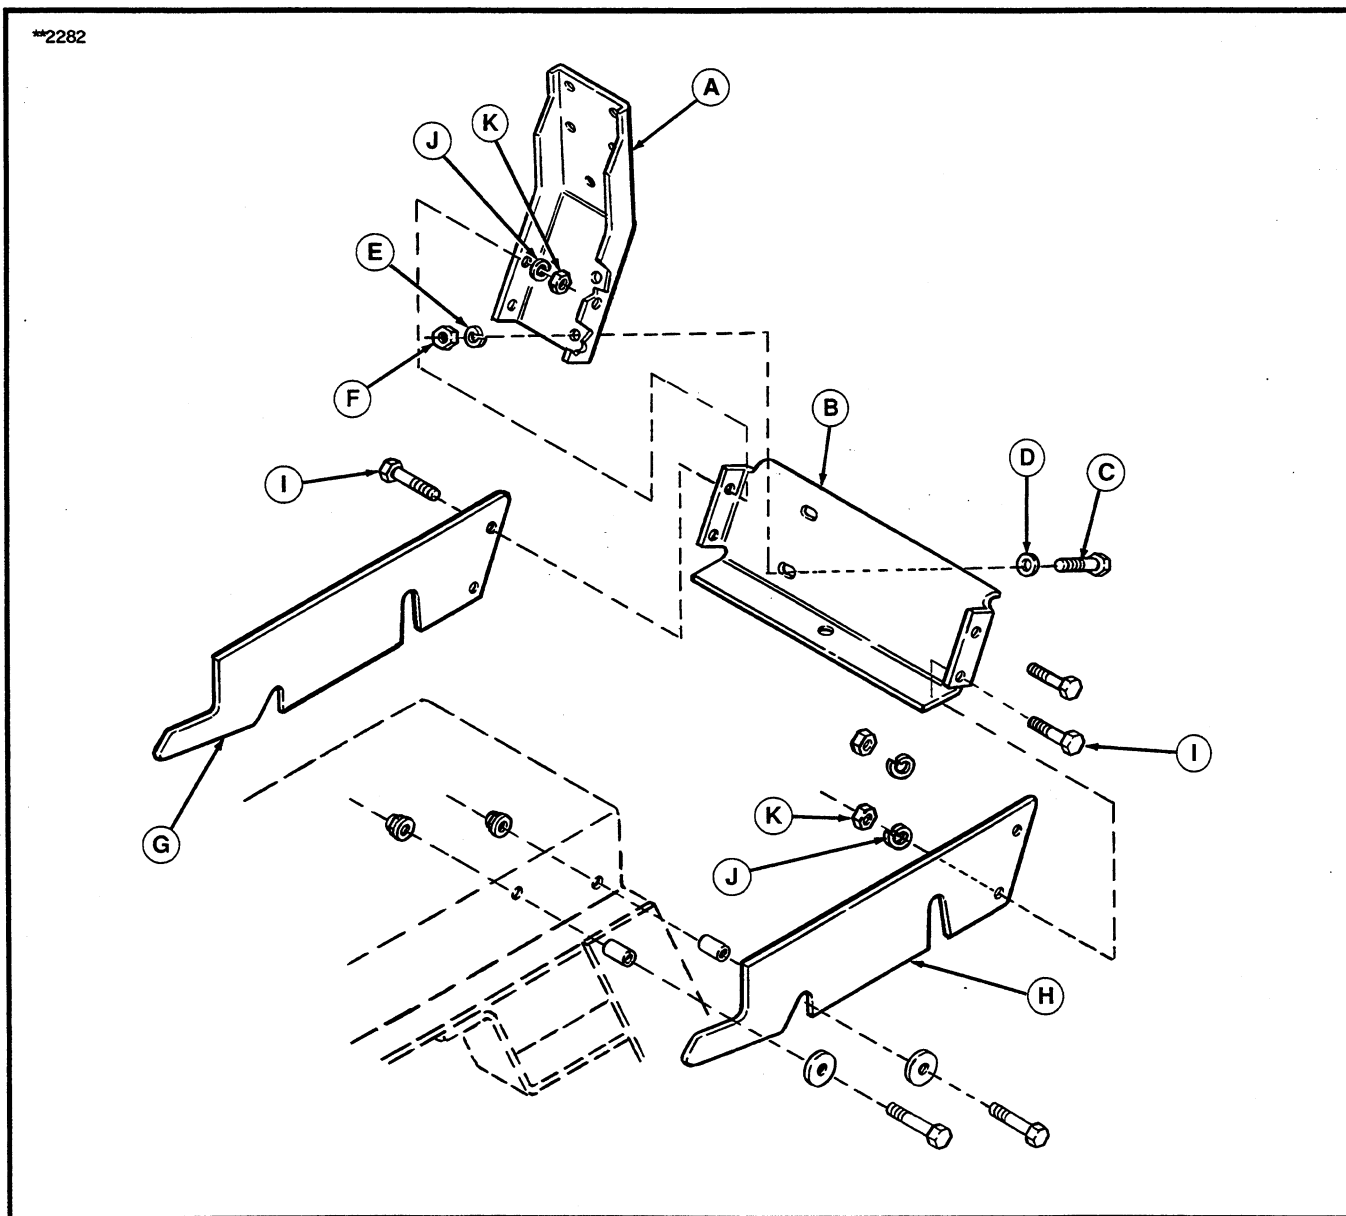

Figure 2
2. Assemble upright support (A, figure 2) on the inside of back plate (B) and secure with two 3/8-16 x 1 1/4" capscrews (C), flat washers (D), lockwashers (E) and nuts (F). Leave all hardware loose.
3. Assemble the right-hand side plate (G, figure 2) on the **outside** of back plate (B) and the left-hand side plate (H) on the **inside** of back plate as shown in figure 2. Secure with four 3/8-16 x 1 1/4" capscrews (I), lockwashers (J), and nuts (K). Note that the right hand side hardware also secures the upright support (A). Leave all hardware loose.